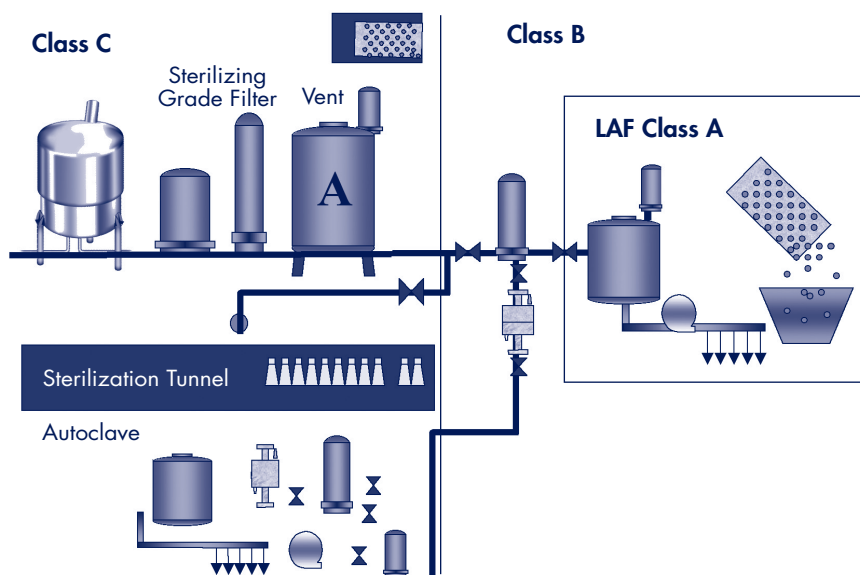

Figure 4. Typical sterile dynamic flow-through fluid path.
Figure 4 illustrates a typical sterile dynamic flow-through fluid path; specifically, a final fill in which a disposable single use fluid path delivers sterile drug liquid from a stainless steel sterile holding tank to a filling machine. In this typical installation, the stainless steel holding tank (A) can be either sterilized in a "walk in autoclave" or SIP'd. In the case of SIP, the tank, often in a Class C environment, is steam sterilized along with a sterilizing grade liquid filter on the inlet and a sterilizing grade hydrophobic filter on the vent up to a closed Tri-Clover outlet. The drug solution is then sterile filtered into the holding tank. The filling machine is SIP'd in-situ